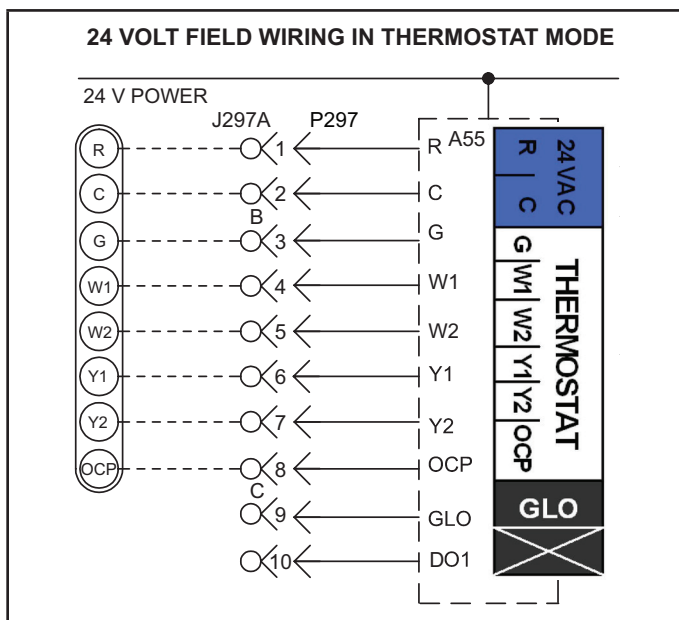

FIGURE 9
- 3 - Route field wiring in conduit between bottom power entry disconnect. See FIGURE 9. This does not supersede local codes or authorities having jurisdiction.